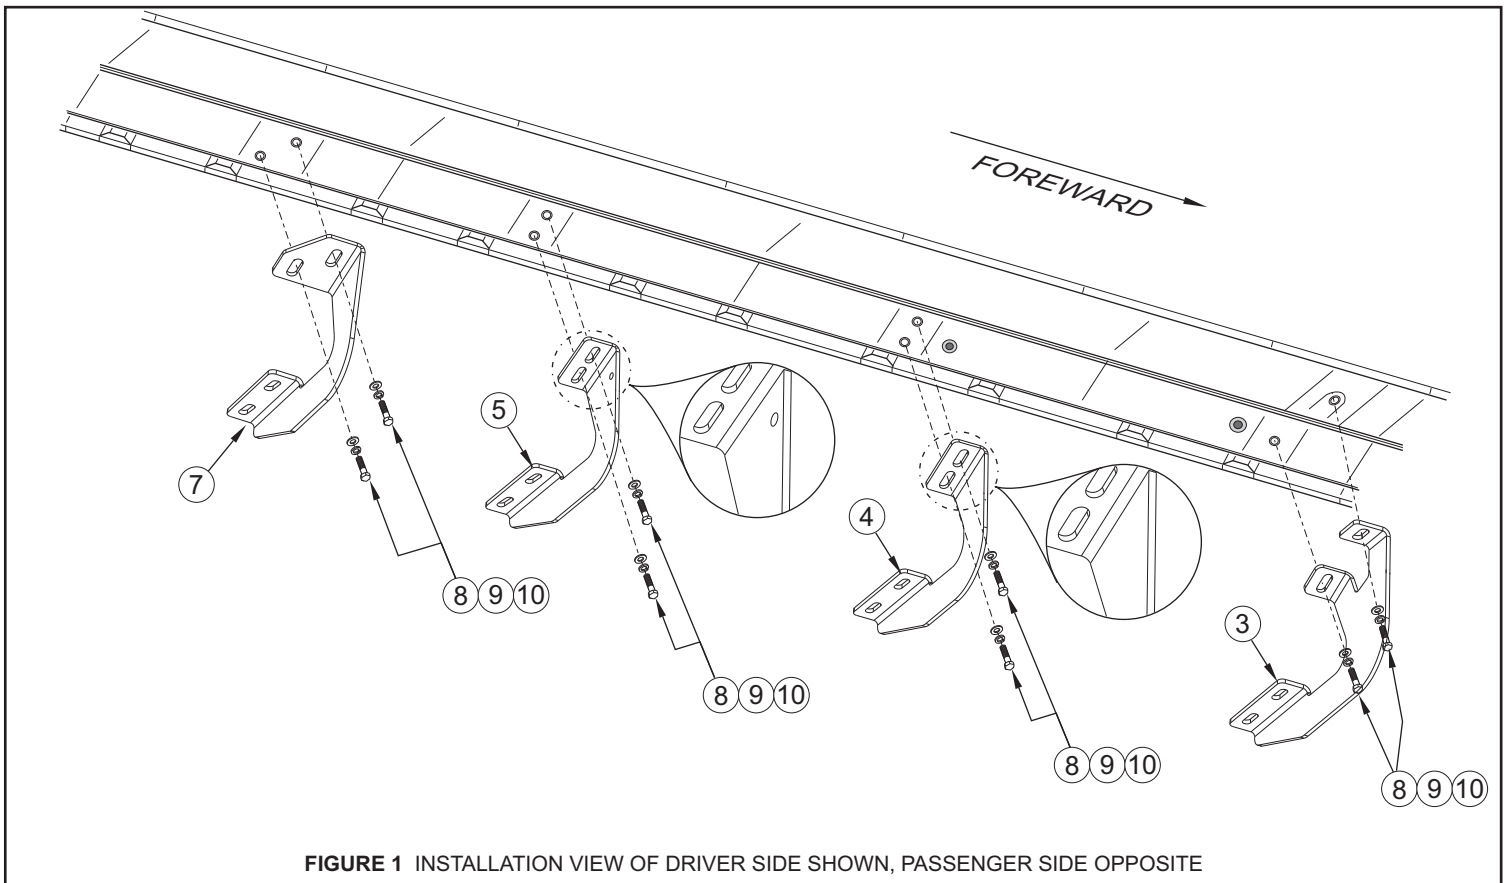

FIGURE 1 INSTALLATION VIEW OF DRIVER SIDE SHOWN, PASSENGER SIDE OPPOSITE
- STEP 2.** Determine front, front center, rear center and rear brackets. Rear/center bracket has 1 identification hole. **SEE FIGURE 1.**
- STEP 3.** Attach drivers side brackets to underside of body panel using two M8-1.25 x 30mm hex head bolts, 3/8" flat washers, and 3/8" lock washers per bracket. Hand tighten. **SEE FIGURE 1.**